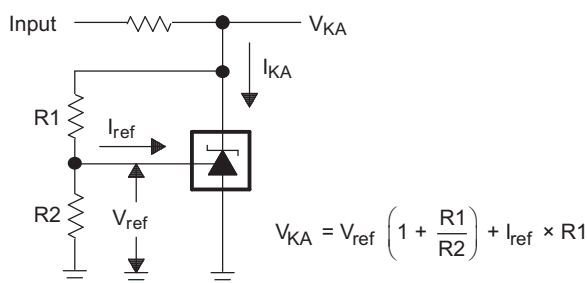

图 18. Test Circuit for  $V_{KA} > V_{ref}$
| $\Delta V_{\text{ref}} / \Delta V_{\text{KA}}$ | Ratio of change in reference voltage to the change in cathode voltage           | See <a href="#">Figure 18</a> | $I_{\text{KA}} = 1 \text{ mA}$                                                   |     | $\Delta V_{\text{KA}} = 10 \text{ V} - V_{\text{ref}}$ | –1.4 –2.7 mV/V        |
| $I_{\text{ref}}$                               | Reference Input Current                                                         | See <a href="#">Figure 18</a> | $I_{\text{KA}} = 1 \text{ mA}, R1 = 10\text{k}\Omega, R2 = \infty$               |     |                                                        | 0.2 0.4 $\mu\text{A}$ |
| $I_{\text{I(dev)}}$                            | Deviation of reference input current over full temperature range (1) | See <a href="#">Figure 18</a> | $I_{\text{KA}} = 1 \text{ mA}, R1 = 10\text{k}\Omega, R2 = \infty$               |     |                                                        | 0.1 0.3 $\mu\text{A}$ |
The dynamic impedance is defined as:  $|Z_{KA}| = \frac{\Delta V_{KA}}{\Delta I_{KA}}$ . When the device is operating with two external resistors (see 图 18), the total dynamic impedance of the circuit is given by:  $|Z'| = \frac{\Delta V}{\Delta I}$ , which is approximately equal to  $|Z_{KA}| \left( 1 + \frac{R1}{R2} \right)$ .